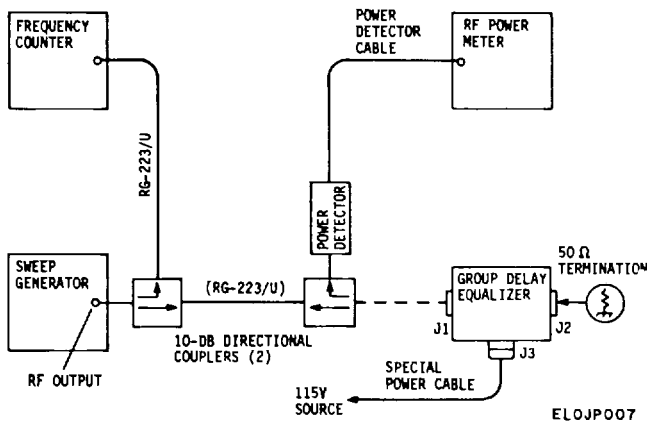

Figure 4-2. Group Delay equalizer, return loss test setup diagram.
(1) Set all phase compensating filters on the group delay equalizer to the *bypassed* orientation.
(2) Connect 50-ohm termination to group delay equalizer as shown in figure 4-2.
(3) Connect the sweep generator, directional couplers, frequency counter, and power meter as shown in figure 4-2. (Do not connect the second directional coupler to J1 of the group delay equalizer.)
(4) Energize test equipment. Allow 15 minutes for warm up and stabilization.